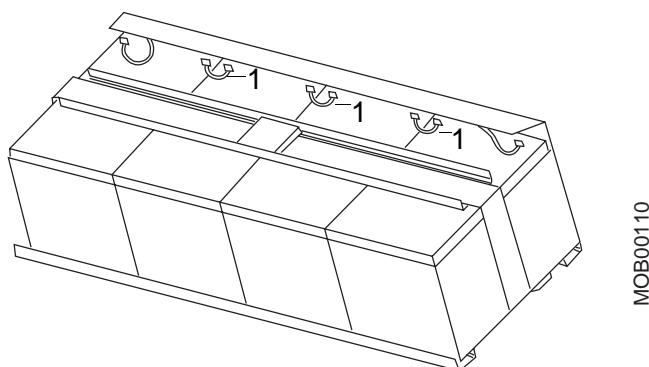

Fig. 3
**Do not loosen the jumpers (1/Fig. 3) between the batteries.